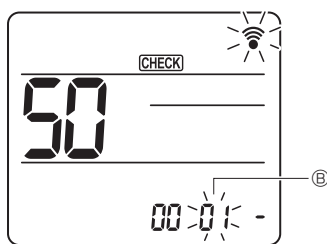

Fig. 7-19
- ③ Select a mode
Press the [DOWN] button to set Mode number ⑤. (Fig. 7-19)